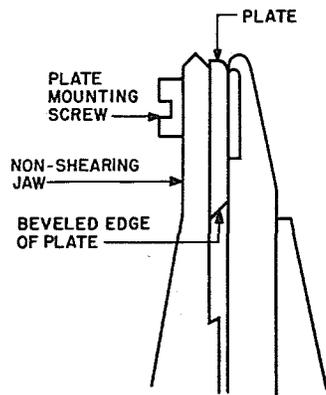

Fig. 2 - Plate Mounted on Jaw of No. 578G Pliers
*Note:* If the No. 578G pliers are to be used for removing contacts from transfer break springs, before insulating the plier jaws, position the plate which is normally mounted on the handle of the pliers, as follows. Using the jeweler's screwdriver, remove the plate from the handle. Mount the plate on the inner surface of the nonshearing jaw of the pliers with the beveled edge of the plate as shown in Fig. 2. The plate in this position will prevent distorting the spring while removing the contact. Return the plate to its position on the handle when using the pliers on all other springs.